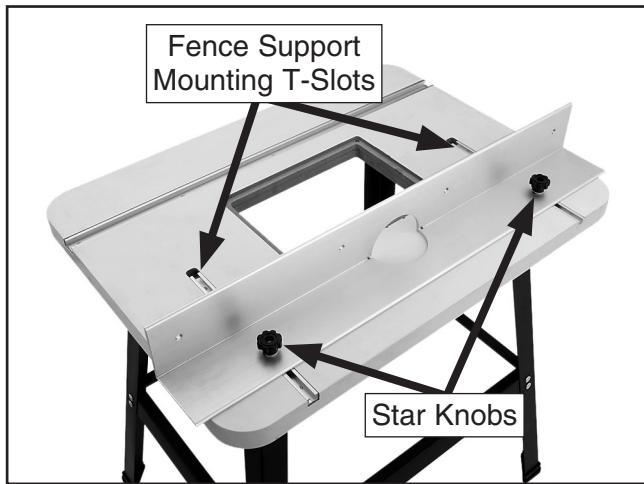

Figure 6. Fence support attached to the table top.
5. Install the (4) rubber feet onto the ends of the legs. Turn the stand and table assembly over, square up the stand, then fully tighten all the fasteners.
6. Slide (2) M8-1.25 x 25 hex bolts into the table T-slots, place the fence support over the bolts, then secure it in place with (2) 8mm flat washers and M8-1.25 star knobs, as shown in **Figure 6**.